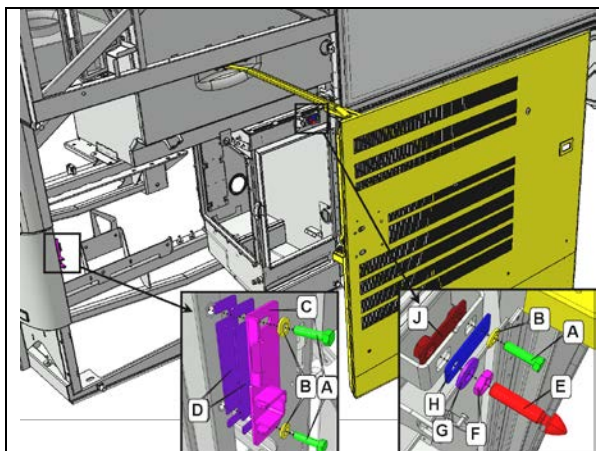

FIGURE 43: DOOR INSTALLATION – LATCH SYSTEM
1. To adjust the position, the door must be free to move without any restriction. For this reason, remove pin E and strike plate C (Figure 43).